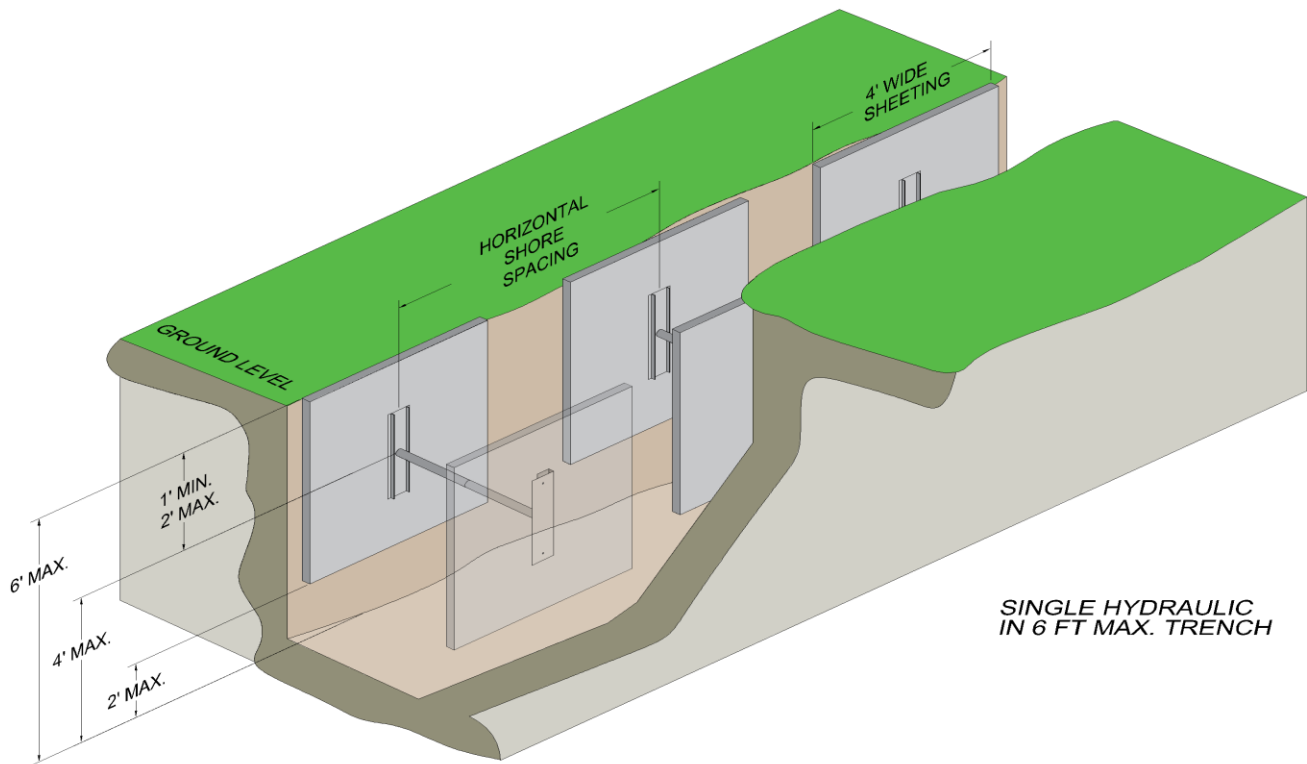

Fig. 1
1. In excavations 6’ deep or less, only 1 hydraulic cylinder is required in each vertical plane. The cylinder shall be no more than 4’ above the bottom of the excavation and no more than 2’ below the top of the excavation. The horizontal spacing shall be as shown in Table 1. See Fig. 1.